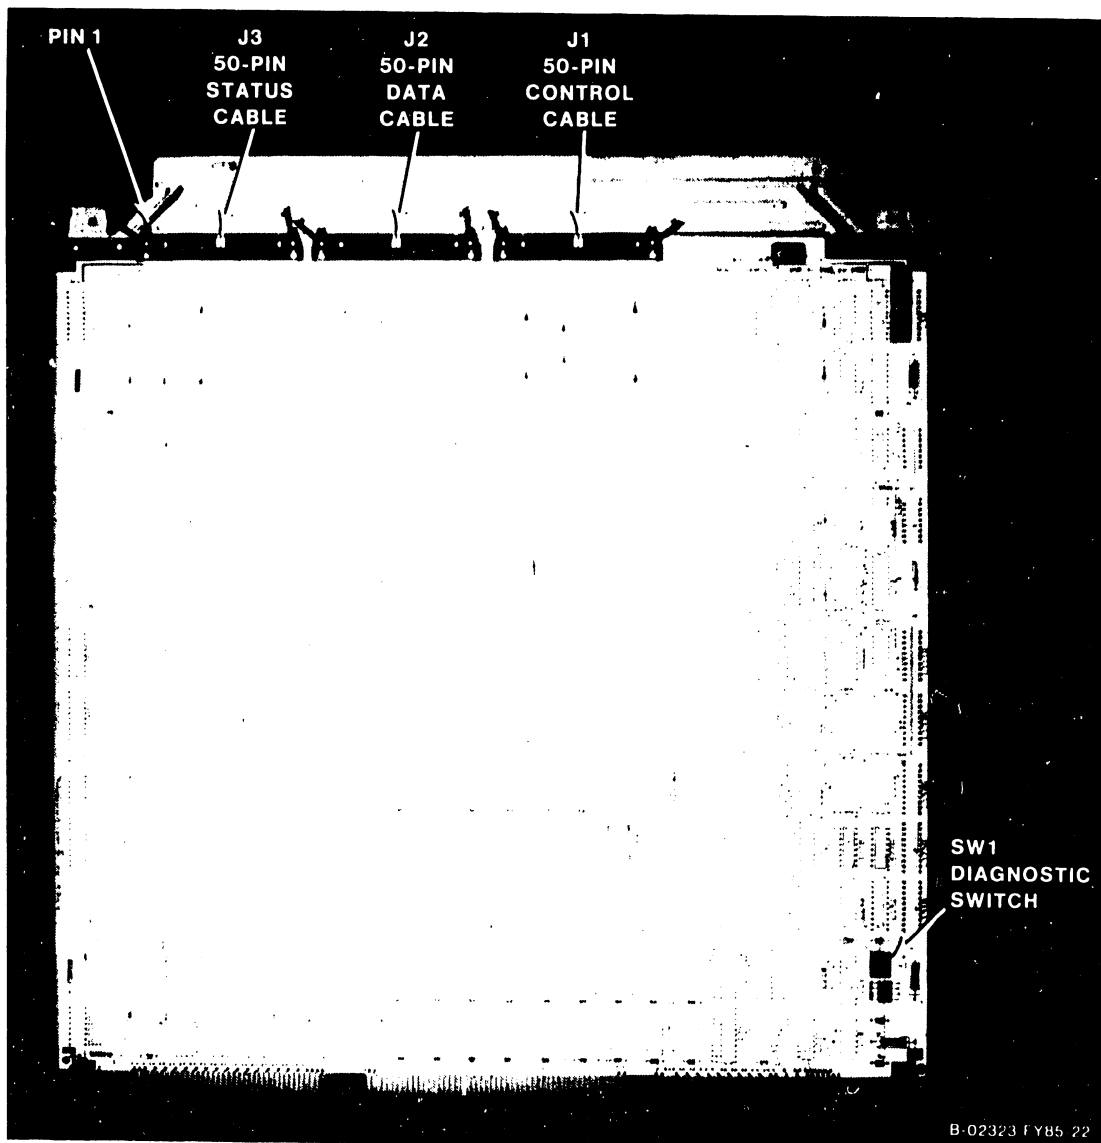

Figure 7-29. 23V95-2 Telex Tape IOC
1. Disconnect all cables from the top of the 23V95-2 Telex Tape IOC (figure 7-29). Note the position of all cables for later reassembly.